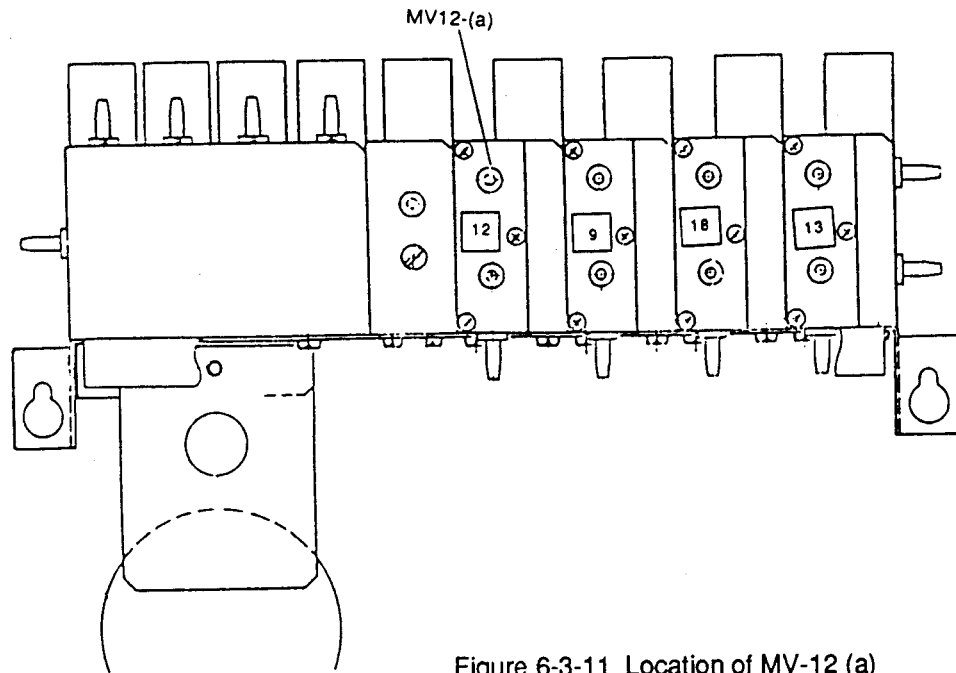

Figure 6-3-11 Location of MV-12 (a)
- C. Open the Operation Panel and disconnect the tube from the nipple (a) of MV-12. Figure 6-3-11 shows the location of the tube.